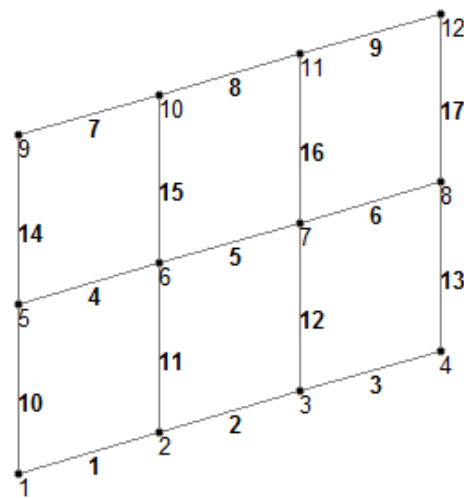

Figure 2-17 Nodes and members created
Step 2: Choose the **Save** button and close the **STAAD Editor** window; the nodes and members are created, as shown in Figure 2-17. Press Shift+N and Shift+B to view the no of nodes and beams respectively.